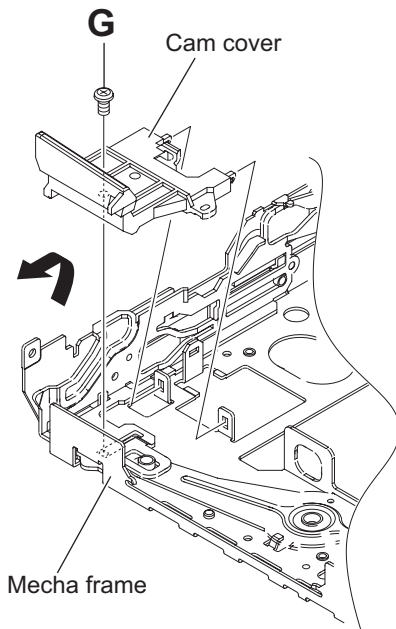

Fig.11
3.2.6 Removing the slide cam (L) (See Fig.11 to 13)
- From the top side of the mecha frame, remove the screw **G** attaching the cam cover. (See Fig.11.)
- Take out the cam cover from mecha frame in an upward direction. (See Fig.11.)